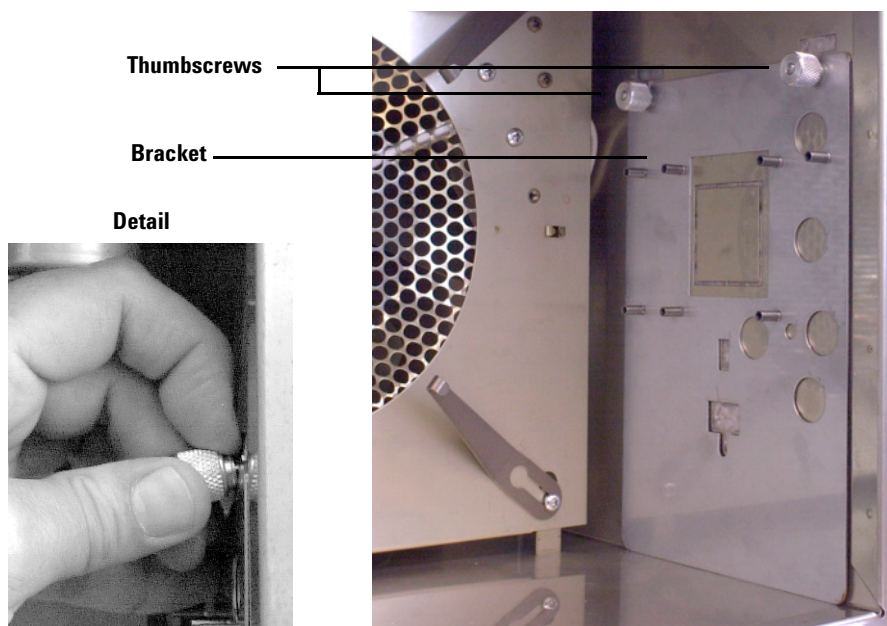

Figure 7 Installing the bracket
- 2 Use two T-shaped thumbscrews to fasten the bracket to the T-slots in the oven wall (Figure 7).